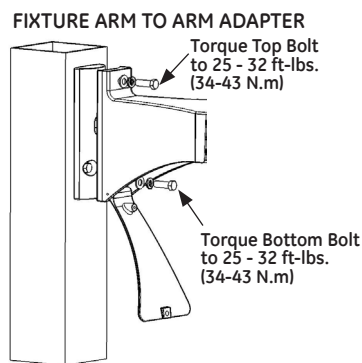

FIGURE 7
- In Top location install 3/8-16 bolt through lock washer, washer and mounting arm as shown. (See Figure 7)
- Open Arm Door and Install 3/8 bolt into tapped hole of adapter block. (See Figure 7)